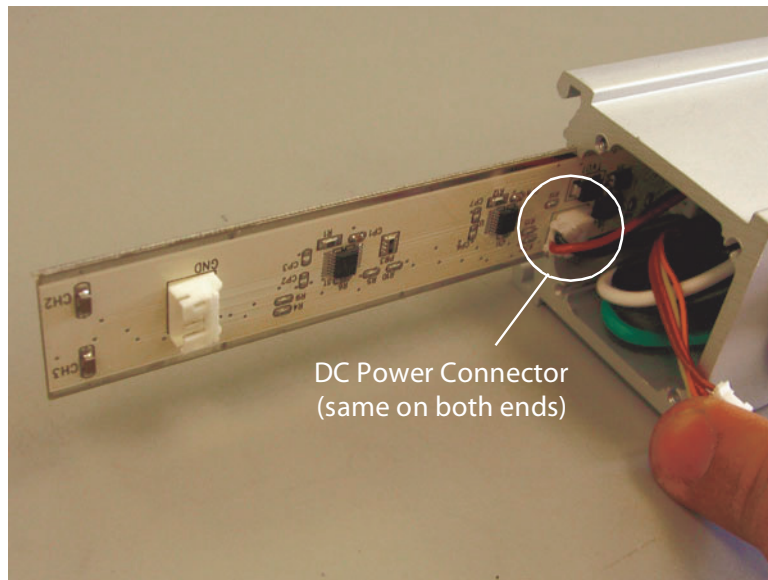

Figure 3.5 Versa TUBE DC Power Connector Location
- 2** Unplug the DC power connectors (see Figure 3.5).